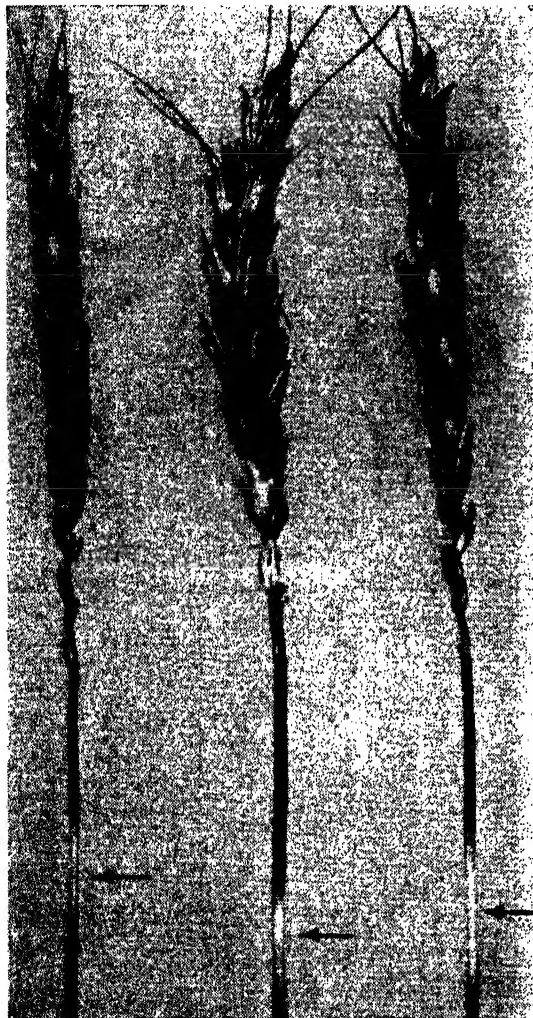

Fig. 3.—Ringbarking of Stems by Frosts.
ring, encircling the stem at a variable distance below the head, but above the point where the ear-bearing stalk emerges from the uppermost leaf sheath (see Fig. 3). An unusual bareness at the base of the ear frequently accompanies "ring barking."
3. A failure of the lower spikelets to develop, resulting in an unusual bareness at the base of the ear (see Fig. 3). However, this type of injury may also be indicative of drought conditions.